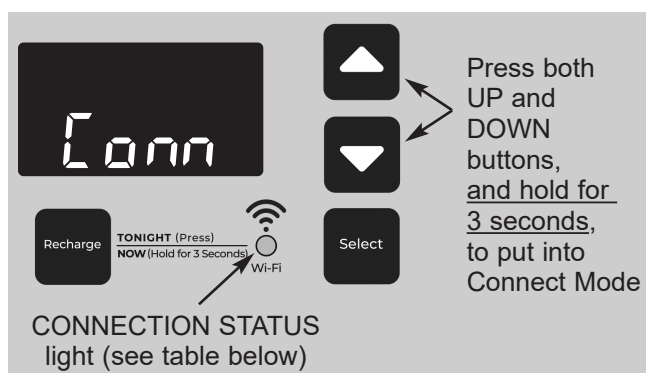

FIG. 30
3. On the water softener's front panel (see Fig. 30), press both the \triangle UP and ∇ DOWN buttons, and hold them for 3 seconds.
4. Release the buttons when “Conn” appears in the display (See Fig. 30) and the connection status light begins flashing amber.